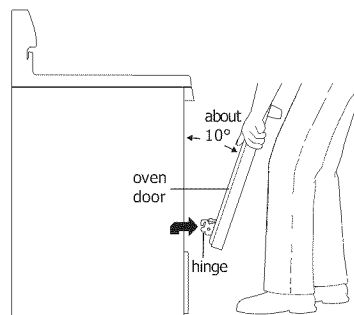

Figure 37: How to remove door
3. Firmly grasp both sides of oven door along the door sides (Do not use the oven door handle - Figure 37).
1. Firmly grasp both sides of oven door along the door sides (Do not use the oven door handle - Figure 37).